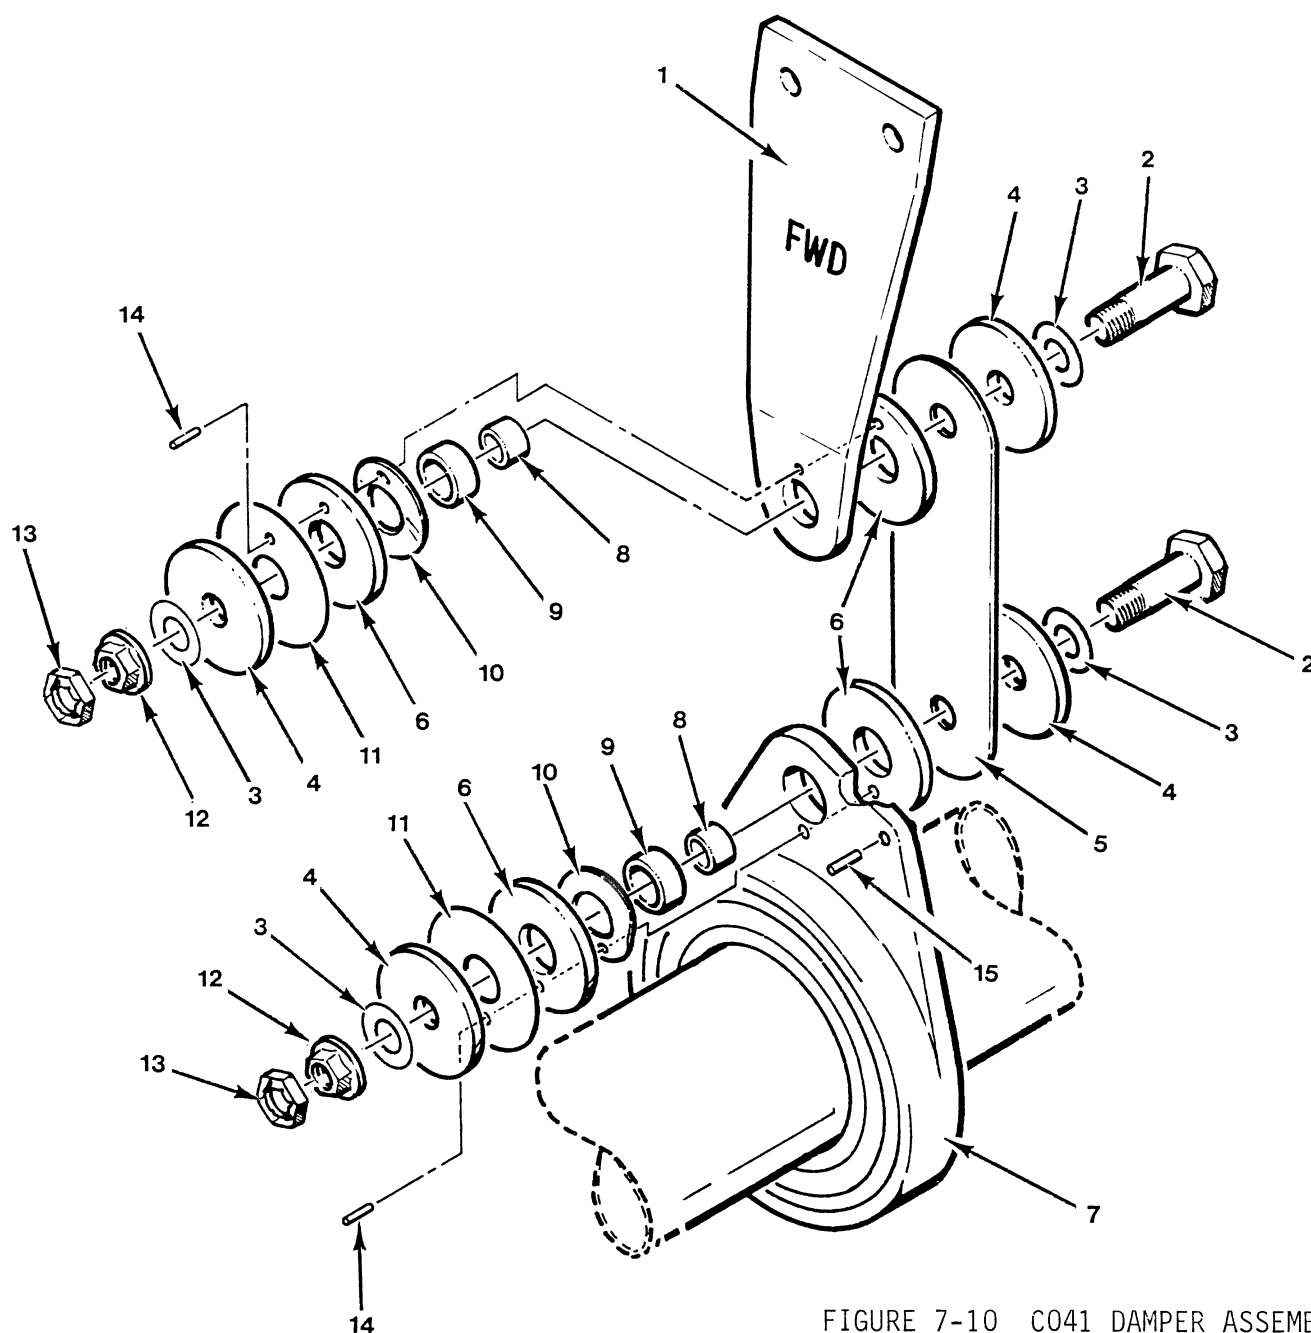

FIGURE 7-10 C041 DAMPER ASSEMBLY
- b) Disassemble damper per Figure 7-10.
- e) Reassemble damper per Figure 7-10. Torque pivot bolts per Section 1.320.